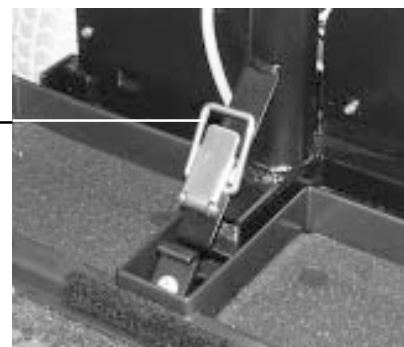

Figure 15. Toggle Latch
2. Position the toggle latch buckle over the top of the toggle latch. See figure 15.